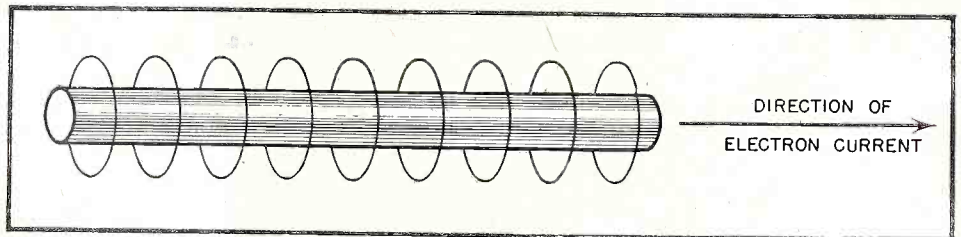

Fig. 1. Direction of electron stream through a conductor
1. (p 13) Note Fig. 1. Under the "direction of electrons = direction of current" theory, the left hand rule determines the direction of magnetic lines of force created by flow of electrons along a conductor. In the diagram the circular magnetic lines of force are shown, but their direction
2. (p 13) What changes would you make in the drawing of Fig. 1 if the solid wire conductor were replaced with an electron beam operating in a vacuum? Re-draw Fig. 1 showing this new condition.